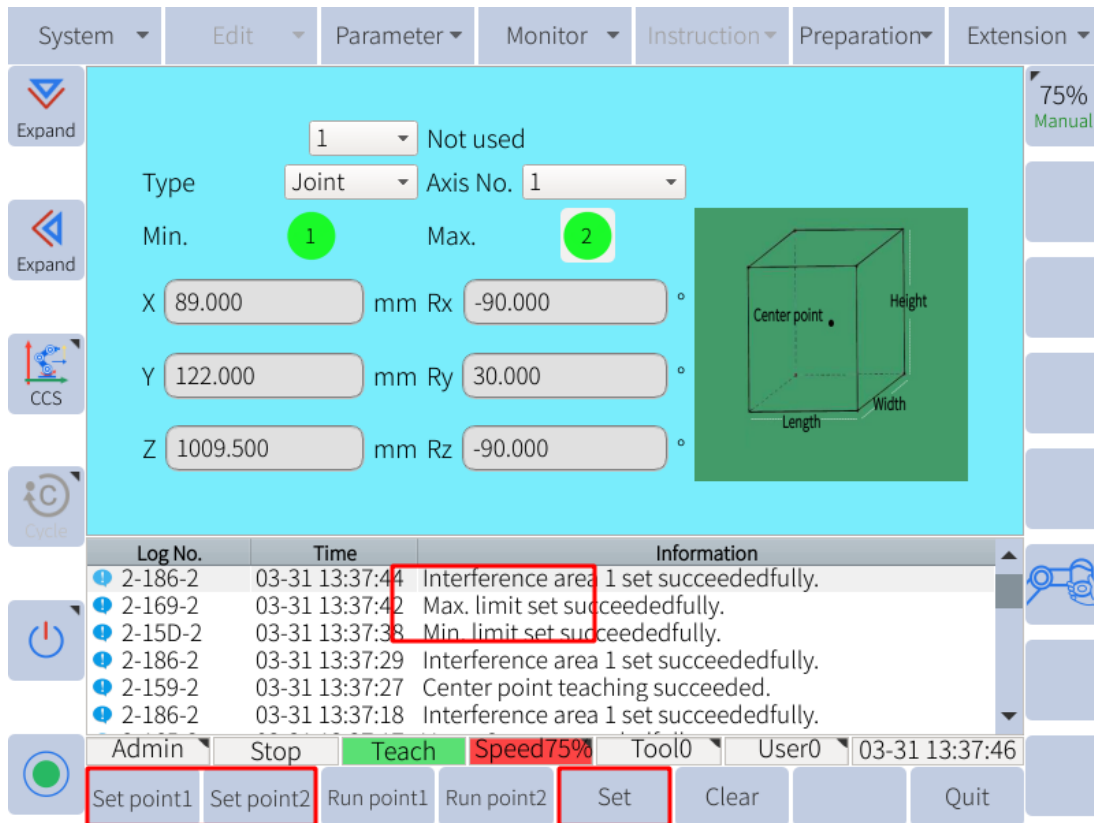

Figure 6-64 : Axis interference area
6. Record the points by pressing "Set" in the submenu area, as shown in **Figure 6-64**.